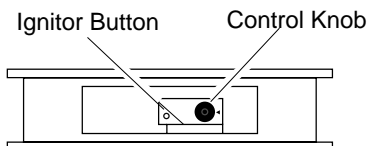

Figure 17- Control Knob and Ignitor Button Location
4. Wait five (5) minutes to clear out any gas. Then smell for gas, including near the floor. If you smell gas, STOP! Follow "B" in the safety information, page 11, column 3. If you don't smell gas, go to the next step.
5. Turn control knob counterclockwise to the PILOT position. Press in control knob for five (5) seconds (see Figure 17). **Note:** You may be running this heater for the first time after hooking up to gas supply. If so, the control knob may need to be pressed in for 30 seconds or less. This will allow air to bleed from the gas system.